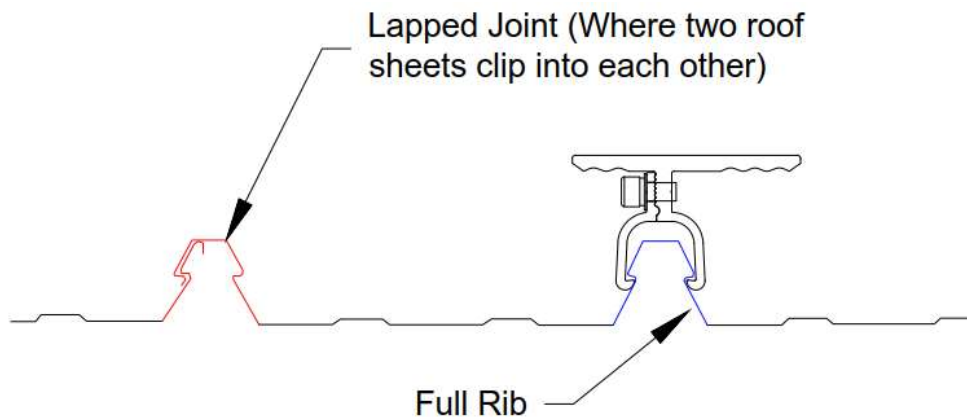

Figure 1 – Full Rib Location For Indicative
For the indicative location of **full rib** in the roof sheeting, please see **Figure 1**.
- Roof clamps to be fixed only to the **full rib** of roof sheeting on the top of the purlins (See **Figure 1**)